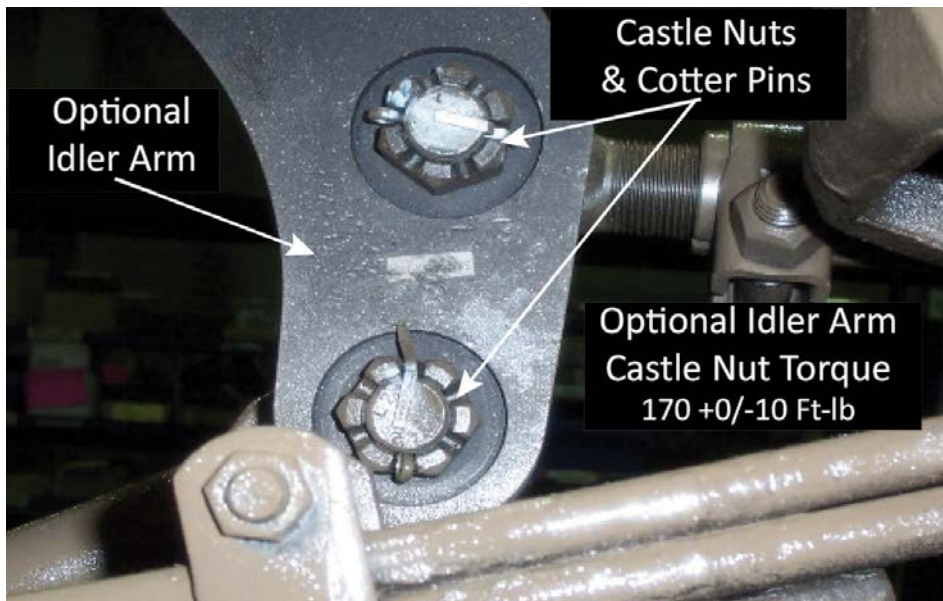
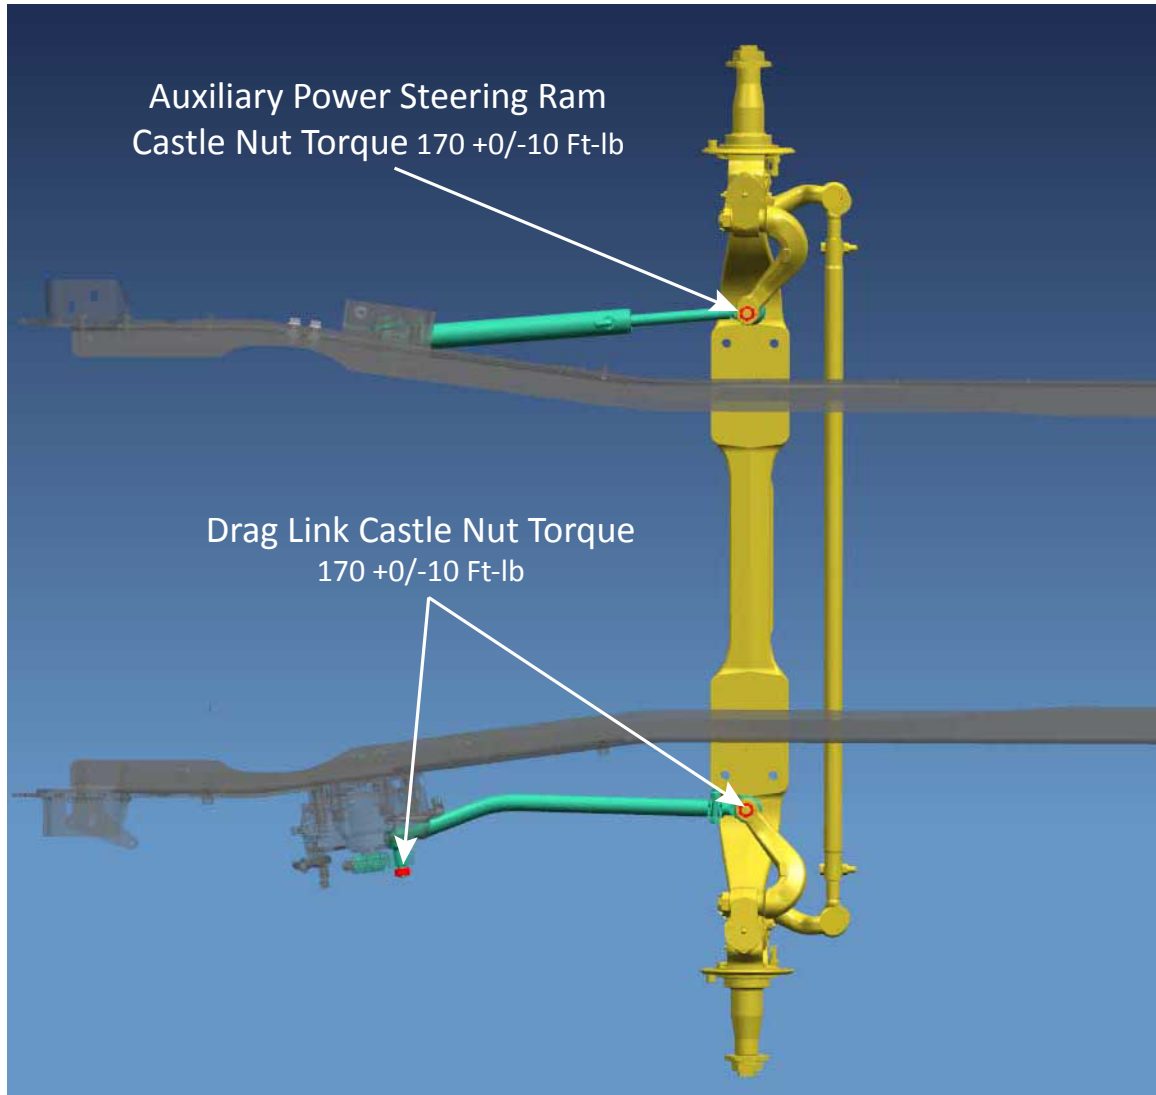
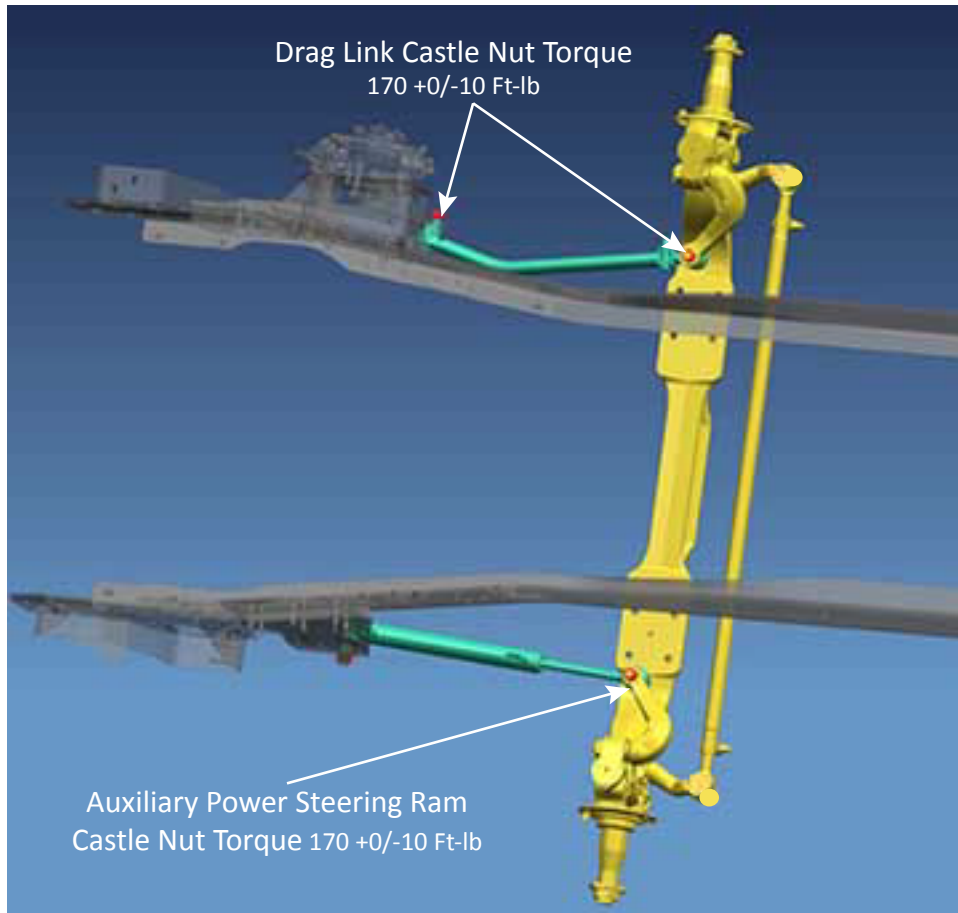

Figure 3
Figure 4
Figure 5
Note: Vehicles with multiple steer axles may be fitted with optional idler arms connecting drag links to each axle. Locate the castle nuts on the optional idler arm. (See Figure 3)
4. Torque each castle nut to the specified torque using the torque values shown in Figure 3 for the optional idler arm, Figure 4 for LH Drive and Figure 5 for RH Drive, and in the Torque Chart on page 8.